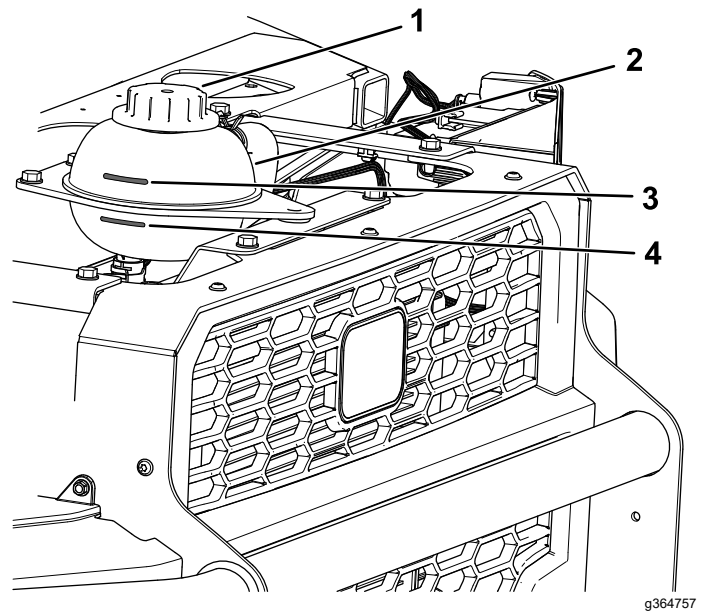

Figure 86
4. Check the coolant level in the coolant tank (Figure 86).